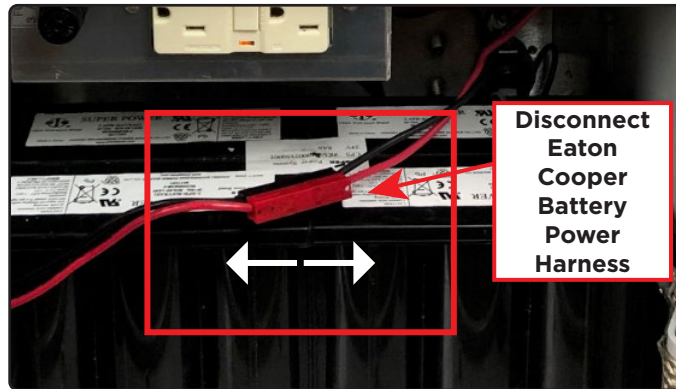

Figure 1 Disconnect the Eaton Cooper Battery Power Harness
2. Remove power from the control and disconnect the Eaton Cooper battery power harness (Figure 1).